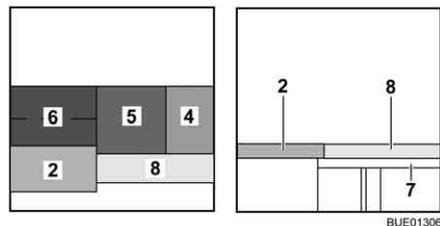

Fig. 133 After conversion
- Place the seat cushion (Fig. 133,5) in the centre.
- Place the back cushion (Fig. 133,4) between the seat cushion and the wall.
- Hook the bed widening (Fig. 133,7) into the recesses on the bench seats.
- Place the additional cushion (Fig. 133,8) on the bed widening.